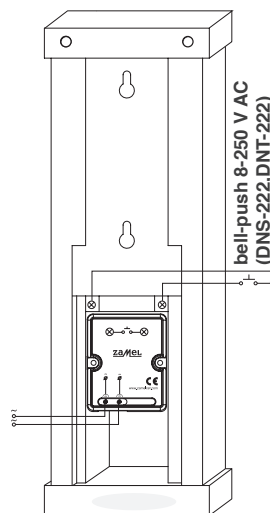

Fig. 2
2. Special four-wire connection (enables using low-voltage bell-pushes and brass doorbell pushes e.g. doorbell pushes type PDM-231, PDM-232, PDK-250/1, PDK-250/2, PDK-250/3 by ZAMEL) – Fig. 2.